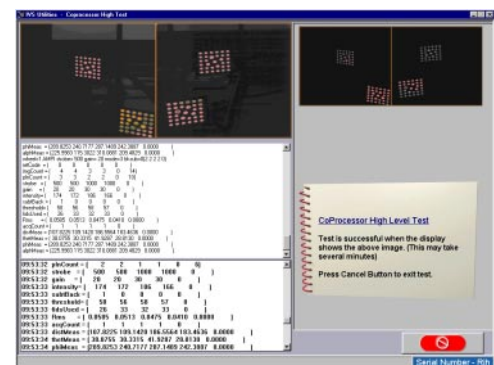

Figure 3-106
5. An image of all 4 targets should appear on the screen. (Figure 3-106) The text box does a refreshes approximately every 1 second and should update . Run the test for approximately 5 minutes and click on the cancel key to exit this test.